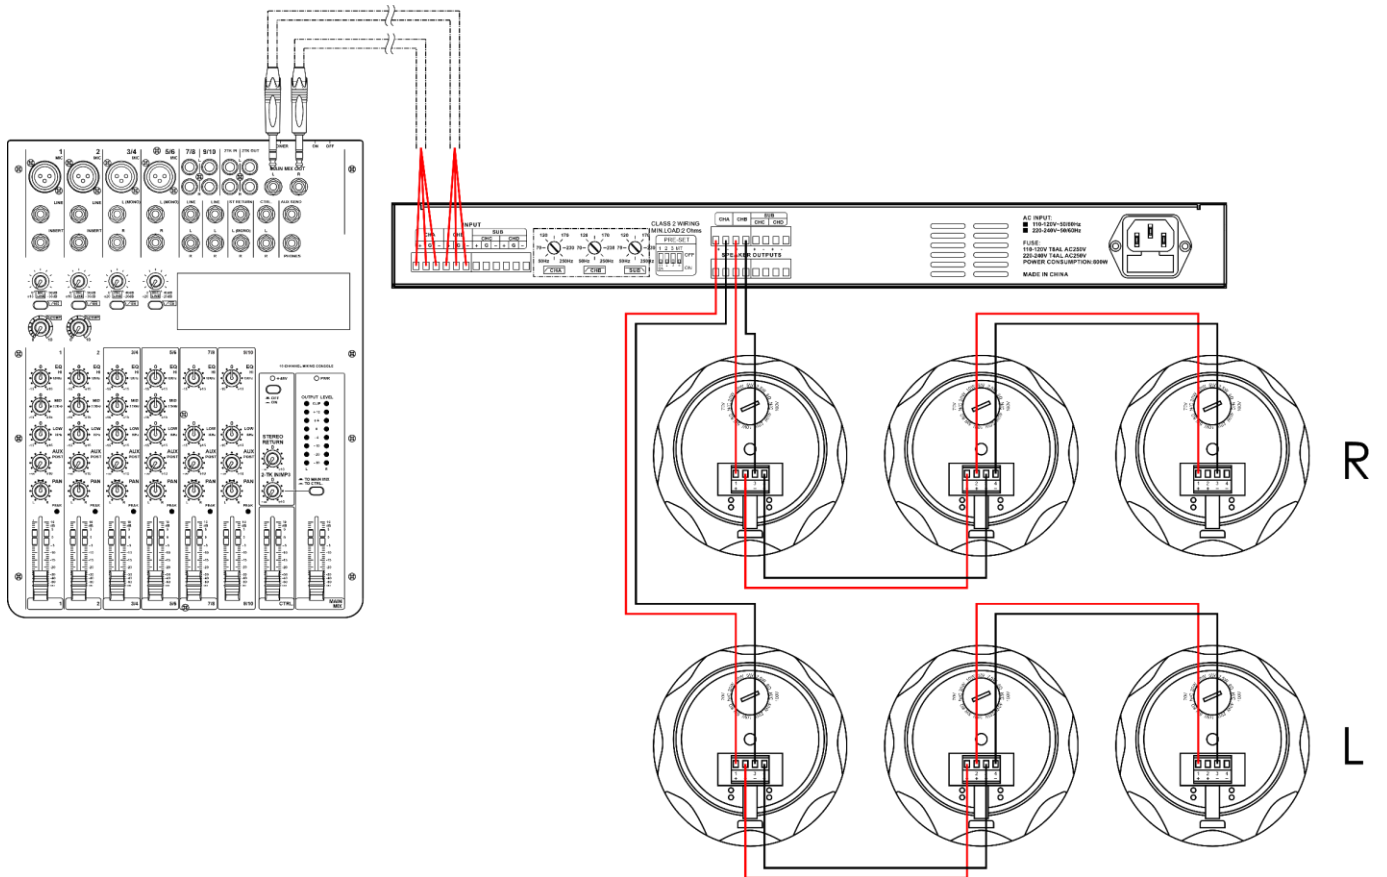

Fig. 12
- 01) Connect one of the (-) connectors on the **4-pin terminal connector (06)** of the first device to the (-) output of the conventional amplifier.
- 02) Connect one of the (+) connectors on the **4-pin terminal connector (06)** of the first device to the (+) output of the conventional amplifier.
- 03) Connect the other (-) connector on the **4-pin terminal connector (06)** of the first device to one of the (-) connectors on the **4-pin terminal connector (06)** of the second device.
- 04) Connect the other (+) connector on the **4-pin terminal connector (06)** of the first device to one of the (+) connectors on the **4-pin terminal connector (06)** of the second device.
- 05) Repeat steps 3–4 to connect all devices in a daisy-chain as shown in Fig. 12.